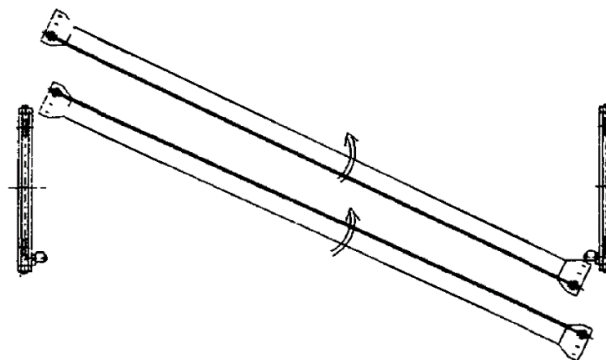

Fig. 5
- If the crane cannot be erected with the left and right end carriage frames attached to the girder, then first erect the end carriage frames on the travel rails as shown in Fig. 5. Next, turn the girders so as to fit between the travel rails and lift into position, and attach the girders to the end carriage frames on the travel rail. When assembling, set the end carriages to a right angle with the girder and square with one another, and adjust span as necessary (Refer to Fig. 5).